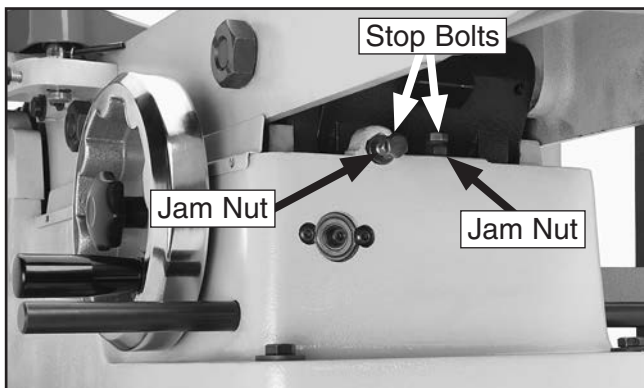

Figure 36. Infeed table positive stop bolts.
3. Loosen the infeed table jam nuts and positive stop bolts shown in **Figure 36**.